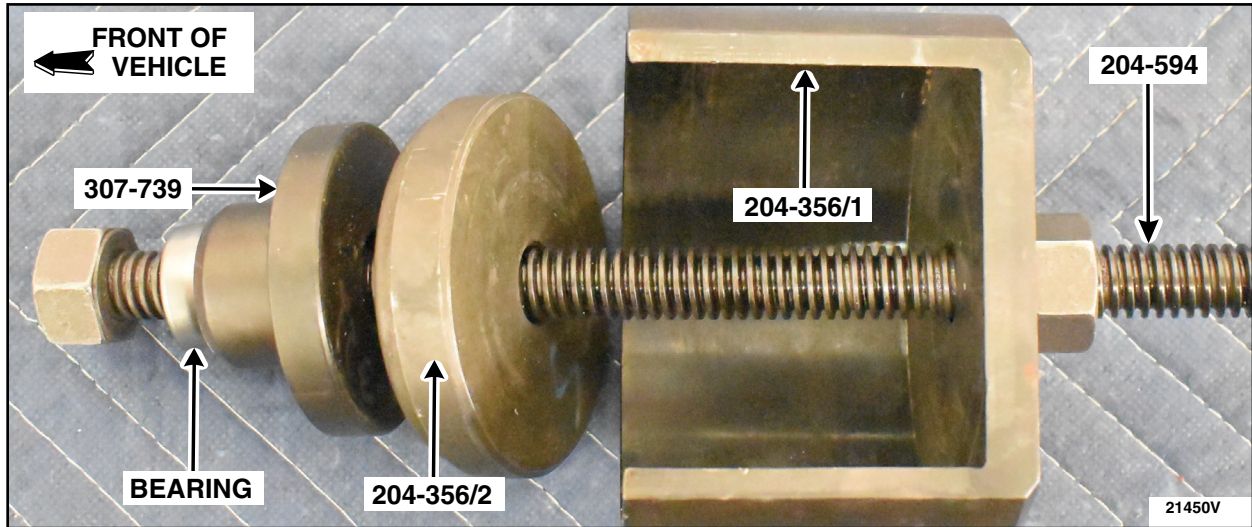

FIGURE 4
8. Using the Special Service Tool: 204-594 Forcing screw, 204-356/1 Remover/Installer, Radius Arm Axle Bushing, 204-356/2 Remover/Installer, Radius Arm Axle Bushing, 307-739 Installer, R3 Bearing, and 205-153 Adapter for 303-224 (Handle) press out the rear axle assembly subframe bushing. See Figure 4.